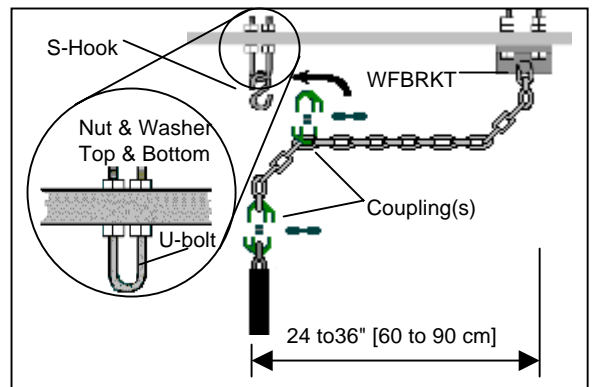

Fig. 4 Forming Safety/Adjustment Loop
- Hang a portion of the bare chain section onto the S-hook to form a safety/adjustment loop beneath the car (Figure 4). With WF25
- Attach the WFBKRT to the car frame. This should be located 24" to 36" [60 to 90 cm] from the U-bolt (Figure 4).